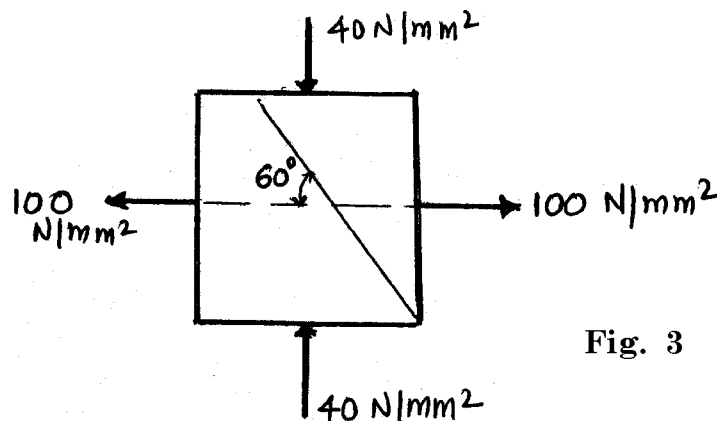

Fig. 3
- (ii) At a point in a strained material, the principal stresses are 100 N/mm^2 tensile and 40 N/mm^2 compressive. Determine the resultant stress in magnitude and direction on a plane inclined at 60° to the axis of the major principal stress. Also determine maximum intensity of shear stress in the material. (figure 3)